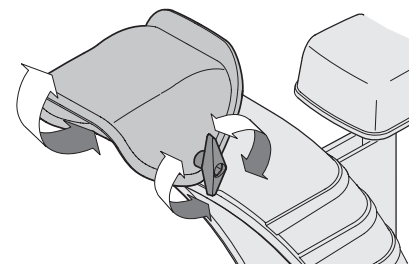

Figure 2-54
1. Loosen wing knob found on left side of chute assembly. See Figure 2-54.